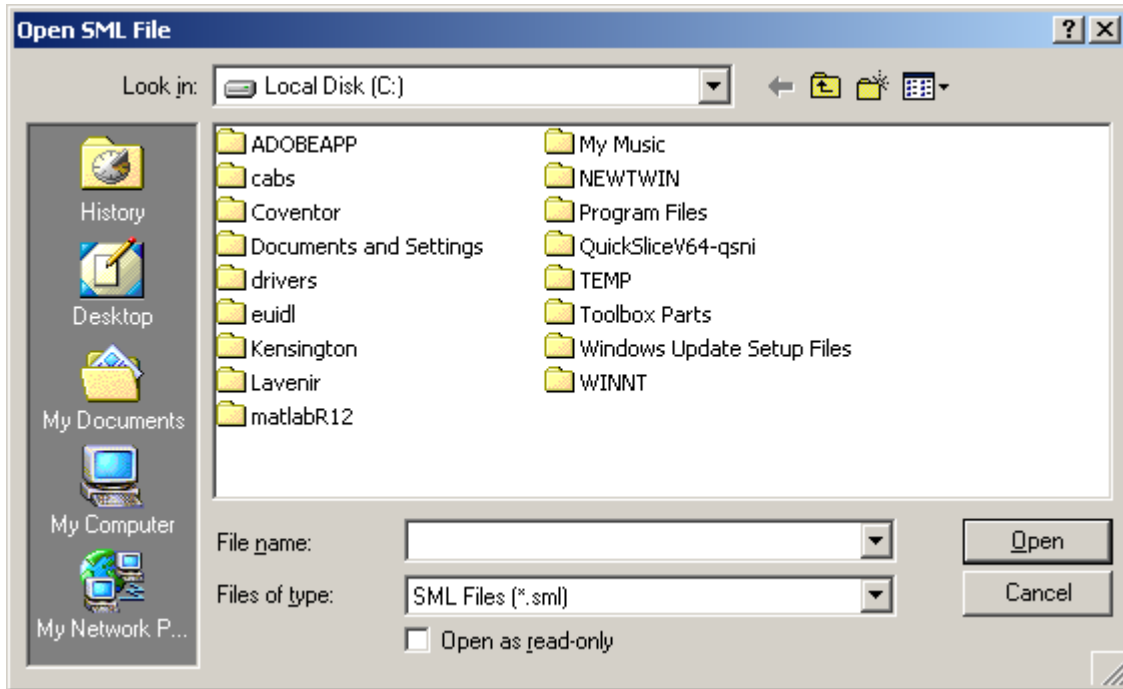

Figure 9: “Open SML” dialog for FDMSend.
18. When FDMSend software opens, traverse the dialog box to the directory where your SML file is. (See Figure 9)